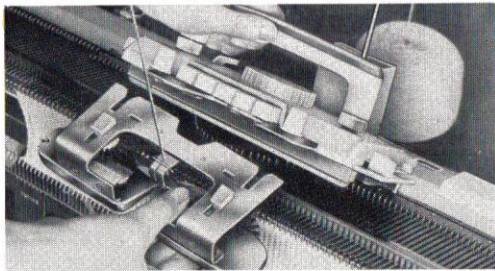

Fig. 15
- b. Grip the handle of the carriage and lift up the front of the carriage. (see Fig. 15)